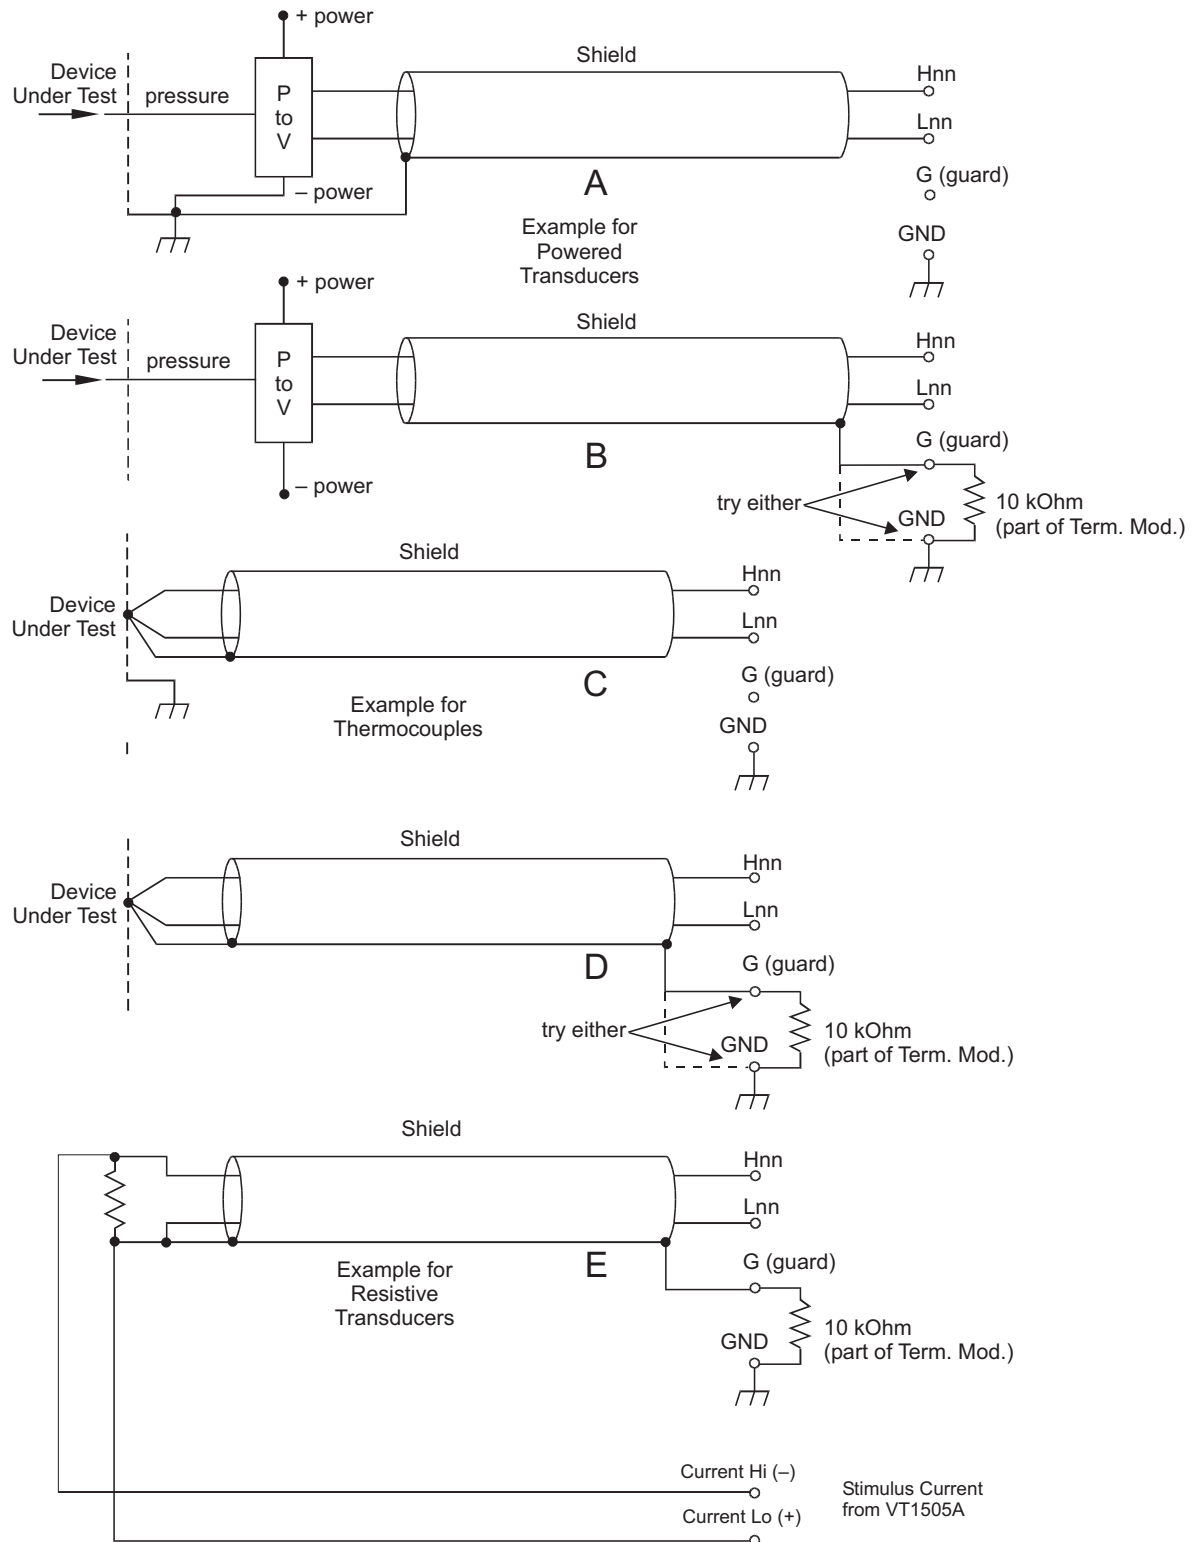

Figure 2-9: Preferred Signal Connections
For any A/D Module to scan channels at high speeds, it must use a very short sample period ($< 10 \mu s$ for the VT1419A). If significant normal mode noise is presented to its inputs, that noise will be part of the measurement. To make quiet, accurate measurements in electrically noisy environments, use properly connected shielded wiring between the A/D and the device under test. Figure 2-9 shows recommended connections for powered transducers, thermocouples, and resistance transducers. (See Appendix D for more information on Wiring Techniques).
- a. **Grounded Transducer with shield connected to ground at the transducer:** Low frequency ground loops (dc and/or 50/60 Hz) can result if the shield is also grounded at the Terminal Module end. To prevent this, remove the GND-GRD jumper for that channel (Figure 2-9 A/C).
- b. **Floating Transducer with shield connected to the transducer at the source:** In this case, the best performance will most likely be achieved by leaving the GND-GRD jumper in place (Figure 2-9 B/D).